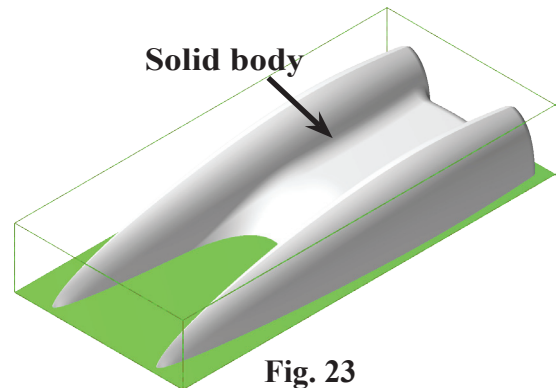

Fig. 23
- Step 3. Click the **hull solid** to select as Drive surfaces/solid, Fig. 23.